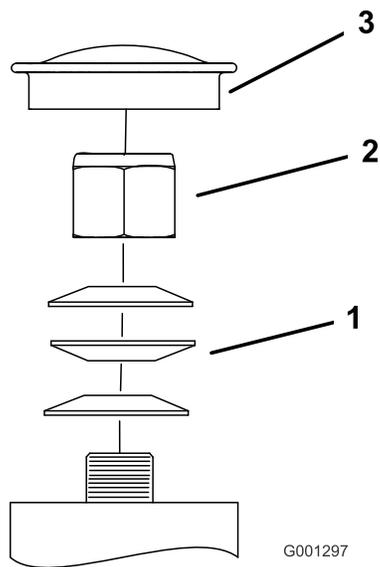

Figure 58
3. Remove the dust cap from caster and tighten lock nut (Figure 58).
4. Tighten the locknut until the spring washers are flat and then back off a 1/4 turn to properly set the pre-load on the bearings (Figure 58).
Important: Make sure spring washers are installed correctly as shown in Figure 58.
5. Install the dust cap (Figure 58).